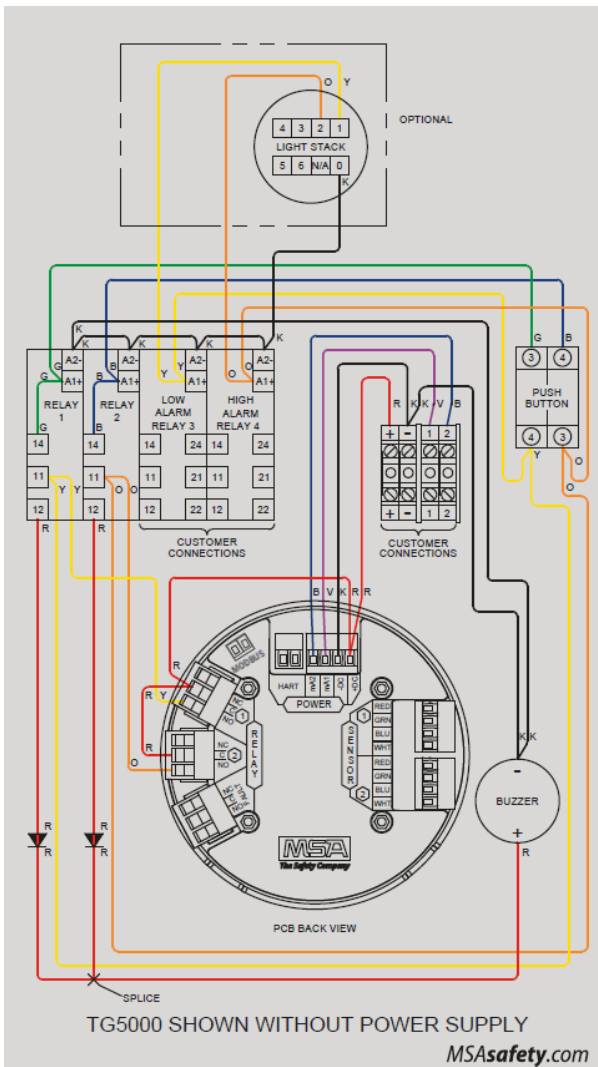

Figure 21 Analog, HART, and Sensor Inputs
Connect 24 Volt DC supply to the 'DC+' and 'DC-' connections on the red power connector (Figure 21). Use only Class II rated power supply rated for at least 50 Watts.
5. Connect the analog output wires. Wire locations are marked on the cover plate (Figure 21):